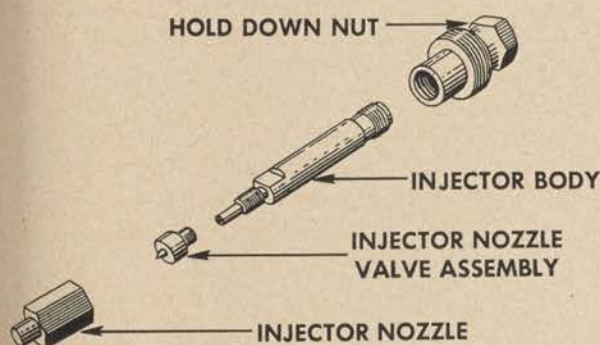

Figure 271. Fuel injector assembly.
3. Using a standard nozzle tester, check the injector to insure that the injector valve emits a fine, even spray in the form of a mist. If fuel forms in droplets at the nozzle tip, or if spray is unsymmetrical, disassemble the injector as shown in figure 271. Clean the parts in kerosene and remove any carbon formation from the nozzle end with a blunt piece of wood.